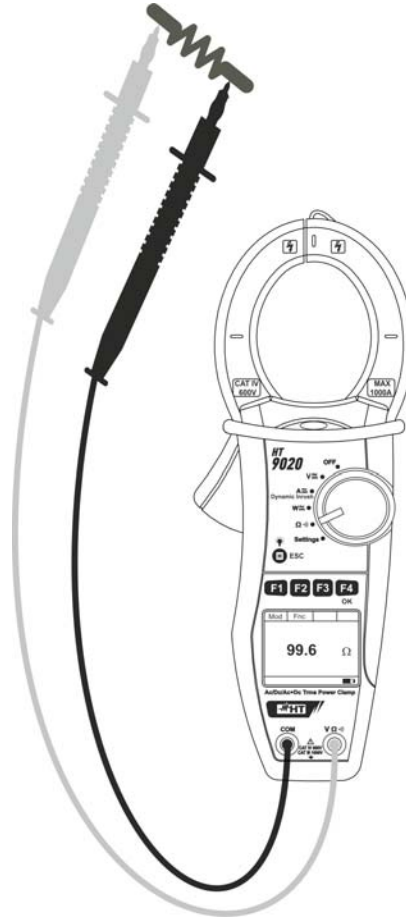

Fig. 13: Resistance measurement
4. Connect red cable to the input lead **VΩ $\cdot$**) and black cable to the input lead **COM**, then connect the instrument as described in Fig. 13